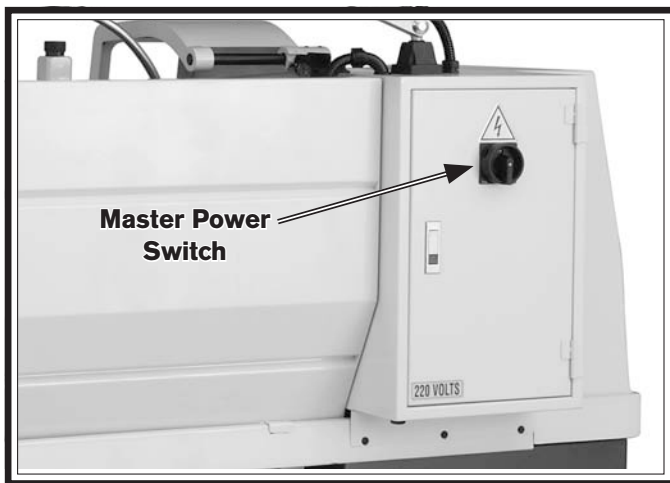

Figure 28. Location of the master power switch.
3. Make sure the master power switch shown in **Figure 28** is turned **OFF**.